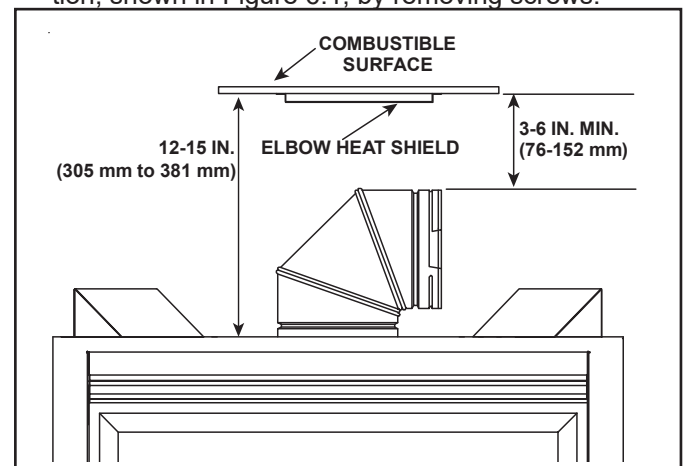

**Figure 6.1** Elbow Heat Shield (Shown as Shipped)
1. Remove the elbow heat shield from the shipping position, shown in Figure 6.1, by removing screws.